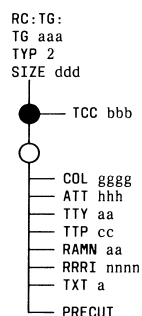

Fig. 24 — RC: TG Message Flowchart
- (1) Construct RC message per Table D and Fig. 24 for TG.
- (2) At terminal, type RC message as constructed in Step (1) and observe RC18 2 0 ACPT response.
- (3) Verify TG data in memory by typing